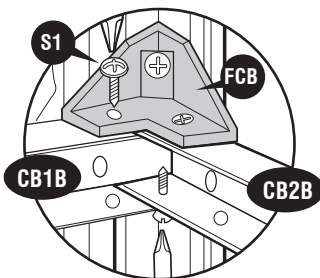

Fig.1: Use (**S1**) screws. Fix (**CB1B**) to (**FCB**) and (**CB2B**).
23. Attach the **center band (CB1B)** to **door column, corner column** and **center band (CB2B)**. See figures 1 and 2.